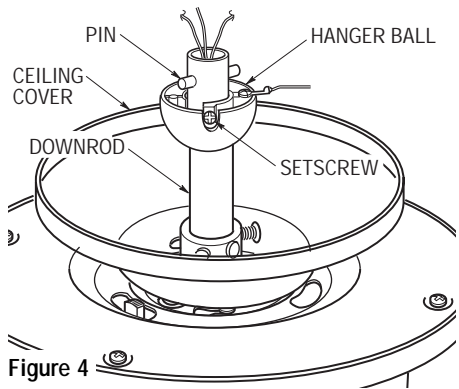

Figure 4
- 4. Place the ceiling cover over the downrod as shown in Figure 4.
- 5. Reinstall the hanger ball (Figure 4) on the downrod as follows. Route the three 80" motor leads through the hanger ball and slide the hanger ball over the downrod. Position the pin